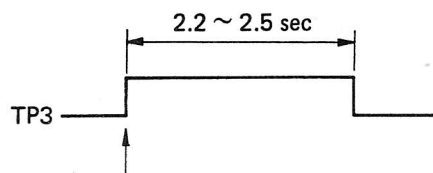

Fig. 7-3
3. When the tonearm is about 20mm away from the outer edge of the record, an output pulse signal will appear at TP3 (see fig. 7-3). Adjust VR3 to obtain a time constant of 2.2 - 2.5 seconds for this pulse signal.